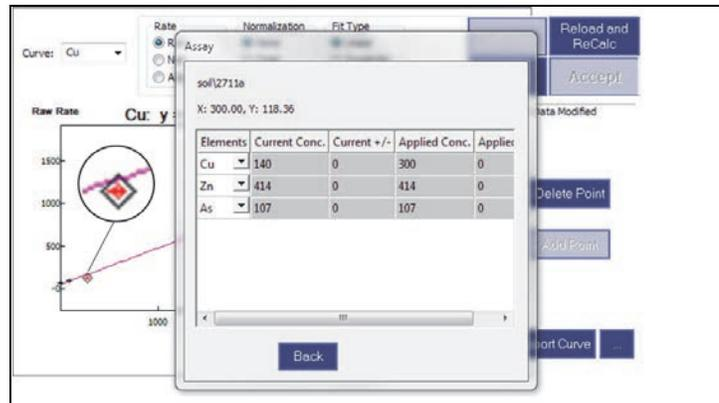

Figure 6-16 A red point shows edited info
1. Double click on the red point to view its assay information in the **Assay** dialog box (see Figure 6-16 on page 91).